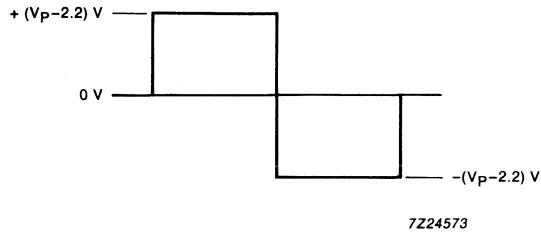

Fig.4 Maximum output voltage swing across R_L .
1. The output voltage swing is typically limited to $2 \times (V_P - 2.2) \text{ V}$, (see Fig.4).